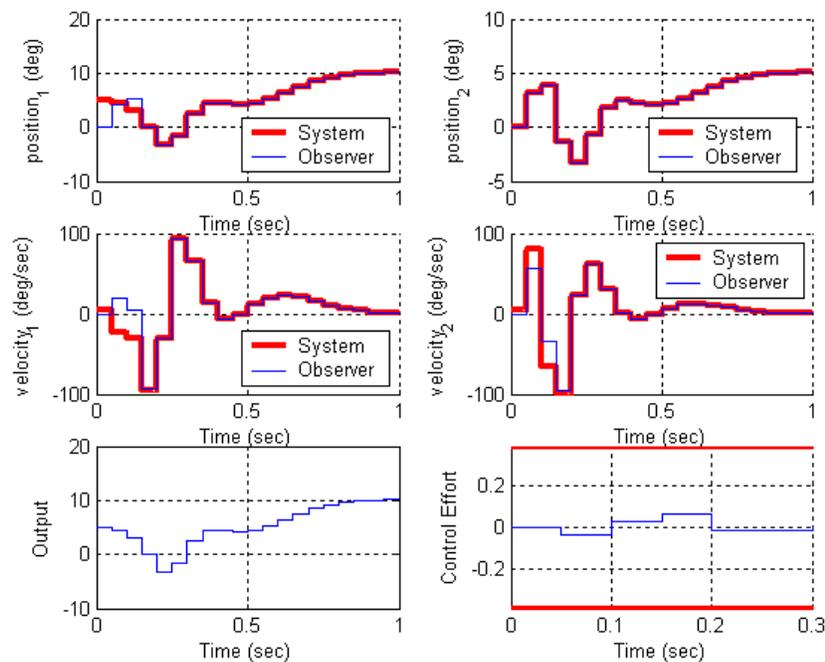

Figure 11. Results for problem **4b**.
b) Assume the only known state is the position of the second disk, and the output is the position of the first disk. Use a sampling interval of 0.05 seconds, assume all the state feedback poles are at 0.5, and the observer poles are at [0.01 0.015 0.02 0.025]. Also assume the system initially starts with disk 2 at zero degrees, disk 1 at 5 degrees, and both disks with an initial velocity of 5 degrees/sec (be careful of units here! The model works in radians.). The initial delayed input is assumed to be 0. The initial estimates of the observer are zero. For a 10 degree step input you should get the graph shown in Figure 11. Turn in your plot.